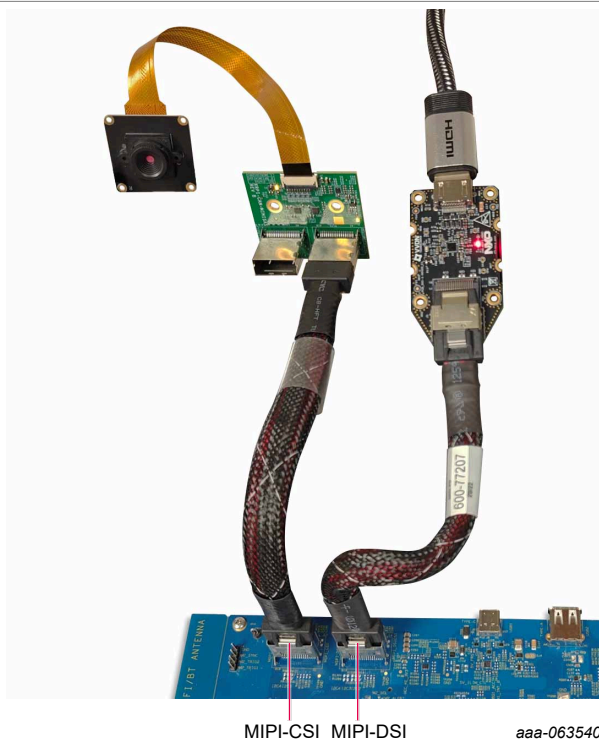

Figure 17. IMX 219 RPI-CAM-MINISAS connection to MIPI-CSI on IMX95LPD5EVK-19 board, IMX-MIPI-HDMI to HDMI monitor
4. Use the highlighted MIPI-CSI port to connect IMX95LPD5EVK-19 board with the RPI-CAM-MINISAS adaptor board, as shown in Figure 17.